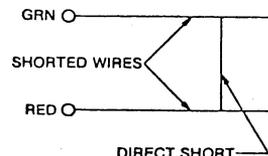

FIGURE 10
- 9.02** (a) Connect test cord clip as shown in Figure 10. Do not allow the red and black clips to touch the other clips or ground.